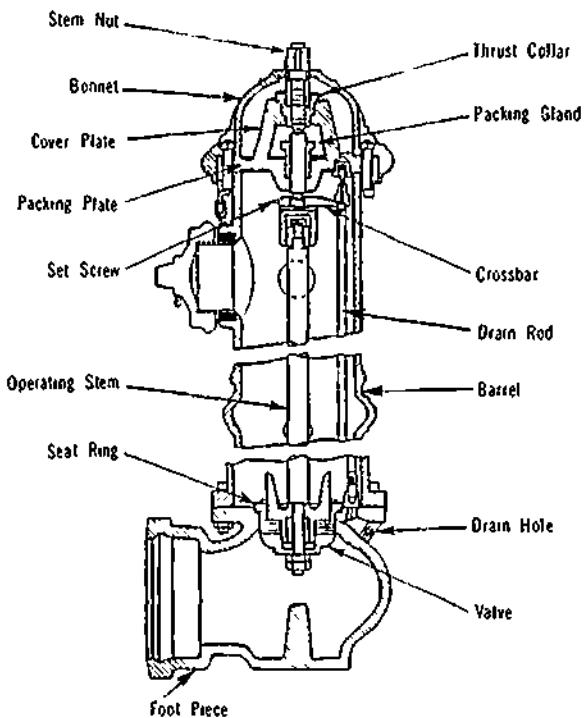

Figure 28-2. Compression-Type (B) Hydrant
d) To disassemble a compression-type (B) hydrant (Figure 28-2) shut off the water, open the hydrant wide, unbolt and lift off the bonnet. Unbolt the cover plate. Turn the stem nut in open direction until it engages the operating stem, at the same time, hold the cover plate from turning. Lift off the cover plate, thrust collar, and stem nut as a unit. Unscrew the thrust collar and remove the stem nut from the cover plate. Lift out the drain rod, loosen the set screw, and remove the cross bar. Insert the socket-key wrench into the barrel over the operating stem and screw down tightly against the tip of the wrench. Turn the wrench counter-clockwise to unscrew the seat ring. Lift out the wrench and valve mechanism. Re-assemble in reverse order.